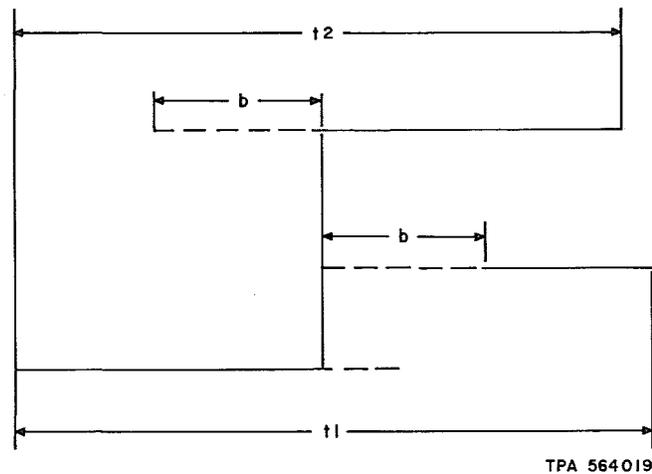

Fig. 19 — Timing Chart
**5.04** Bridging time checks are used to determine that the switch is a make-before-break operation. The bridging time can be determined as follows (see Fig. 19):